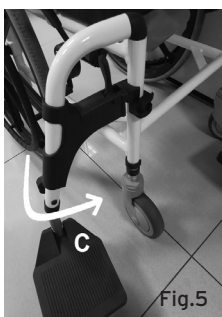

Fig.5
D. To assemble the footrest, insert it in the hole, push it downwards and then inwards until the safety block. To remove the footrest, unlock the safety block, turn the footrest outwards and pull it out. Footrests have to be turned inward. (Fig 5)